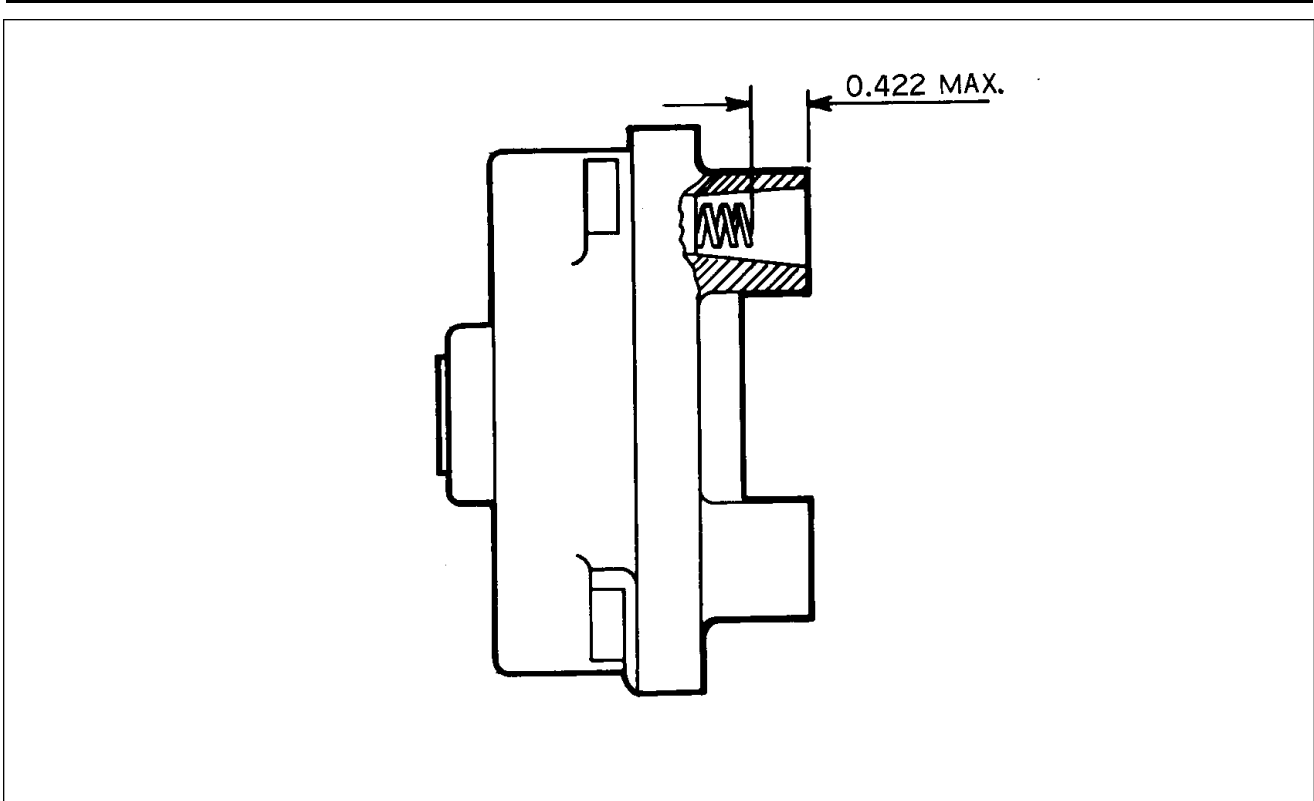

Figure 74-2. Contact Spring Inspection
4. Should this not be possible, a visual inspection may disclose the source of trouble. Remove the harness outlet plate from the magneto. Inspect for the presence of moisture and foreign matter on the rubber grommet and high tension outlet side of the distributor block. Check height of block contact springs. The top of the spring must not be more than 0.422 of an inch below the top of the tower as shown in Figure 74-2. If the springs are broken or corroded, replace them.